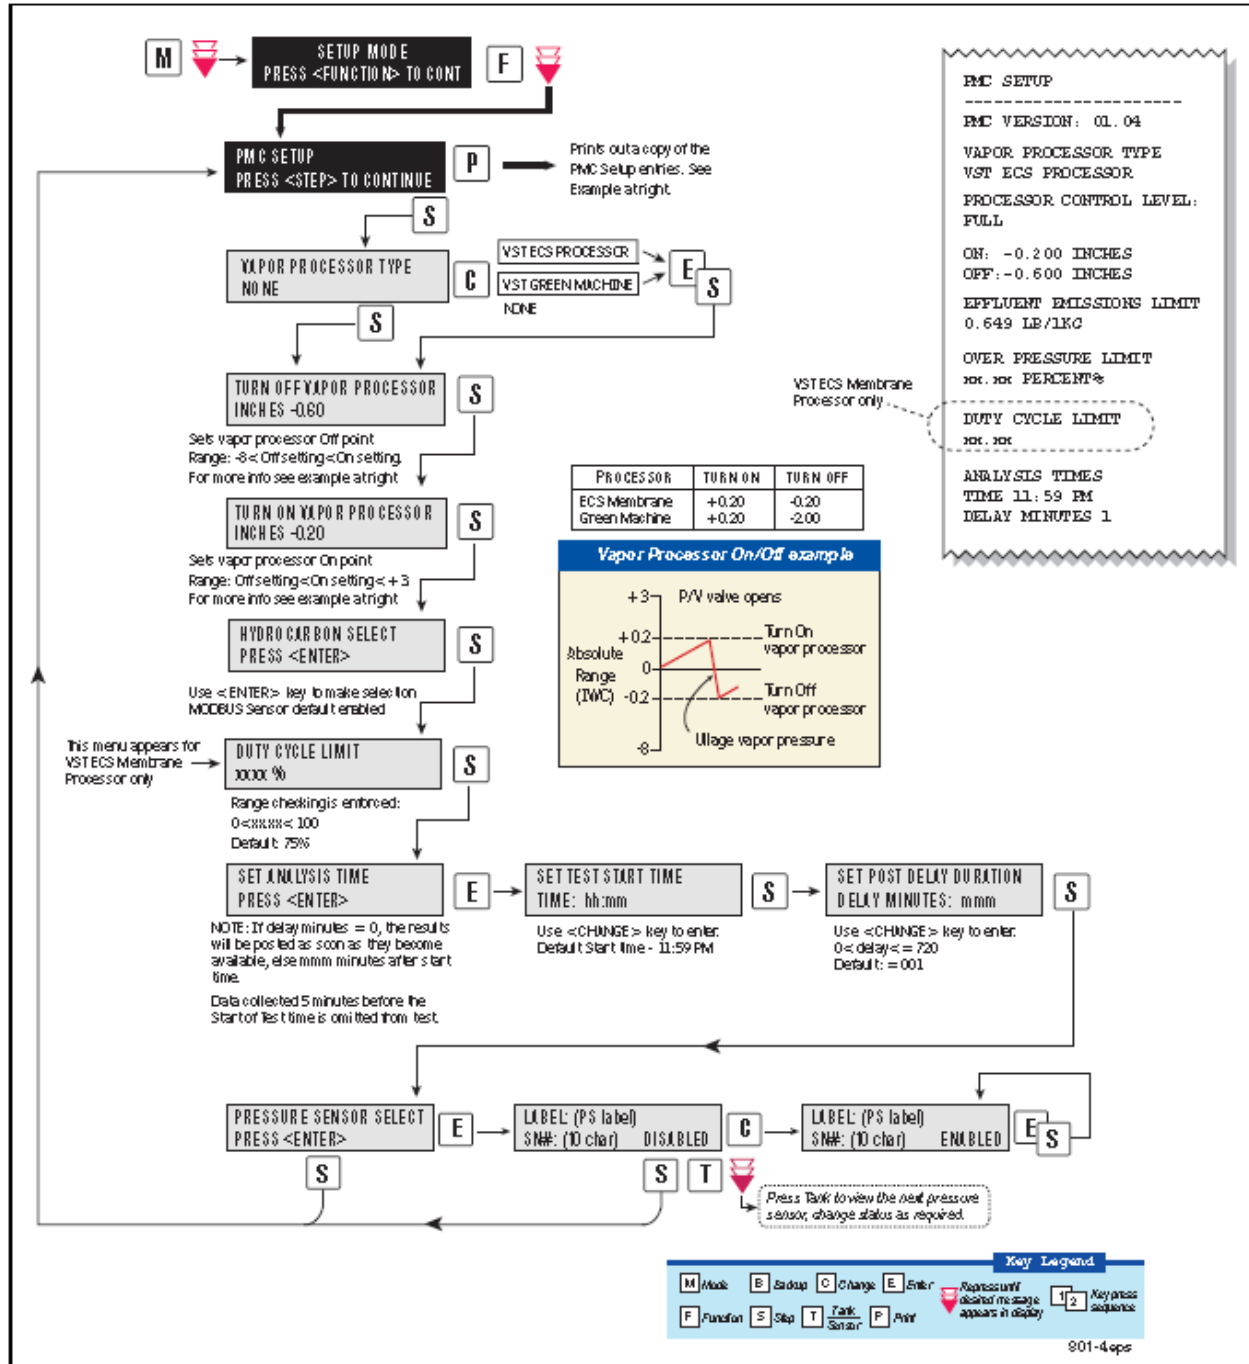
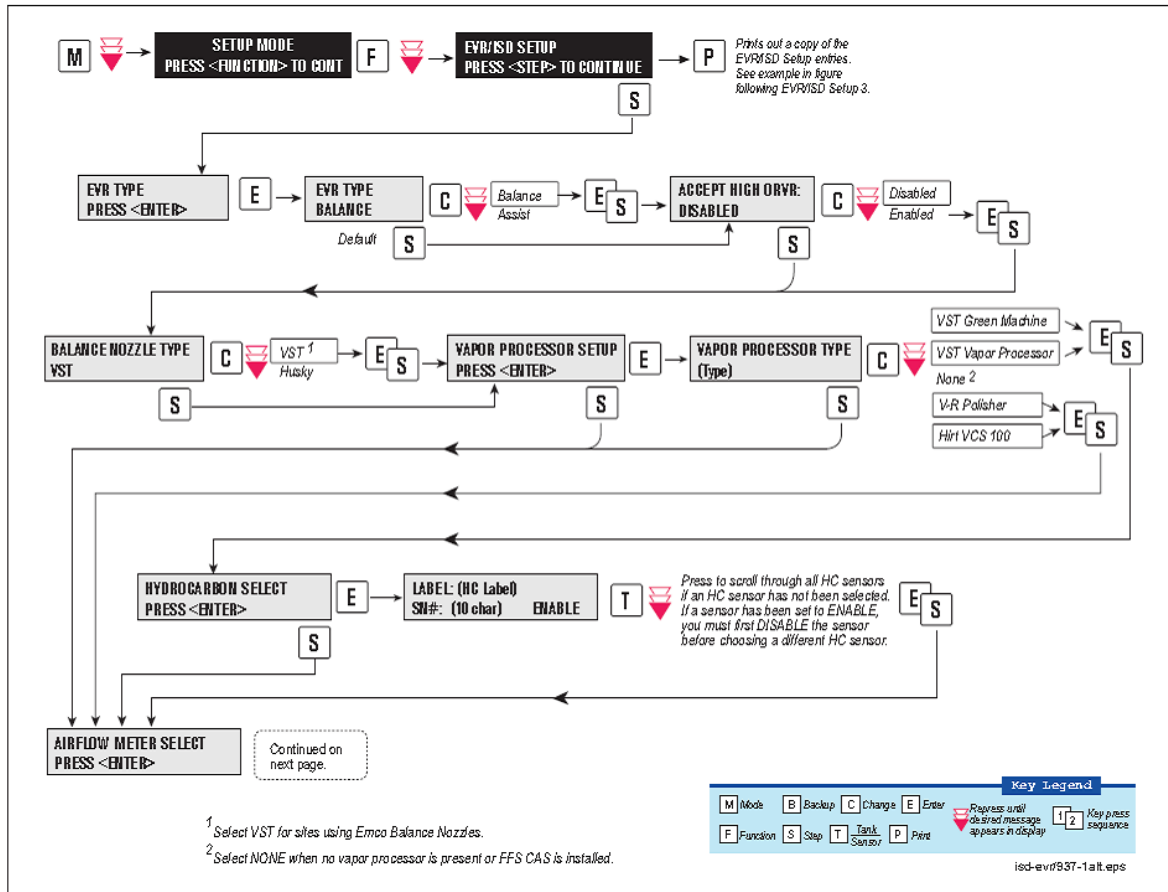

Figure 30: PMC Set-up
Figure 31: ISD Set-up
1.	<p>Make sure the HYDROCARBON SELECT is set to MODBUS in the PMC Setup (203) or the EVR/ISD Setup (204)</p> <ol style="list-style-type: none"> a. See Figure 30 for PMC b. See Figure 31 for EVR/ISD c. IF the MODBUS is not selected, change to MODBUS d. Check that the HC SENSOR in the PMC Diagnostic (or in the IV8100 report) is reading either 0% or 20% HC e. CLEAR TEST AFTER REPAIR (only if in alarm)